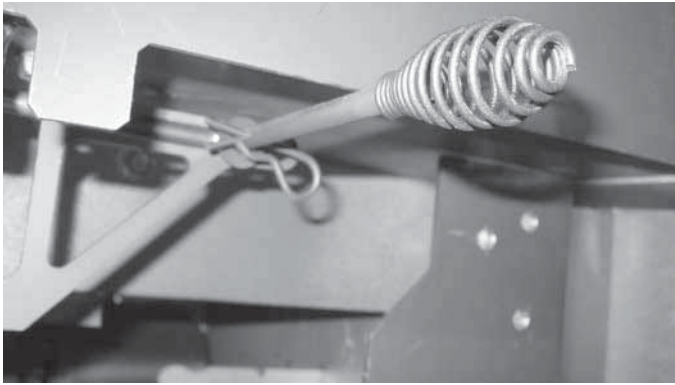

Figure 4.36 Reinstalling Hairpin Clip and Washer
13. Install the washer and the hairpin clip back on the rod. See Figure 4.36.